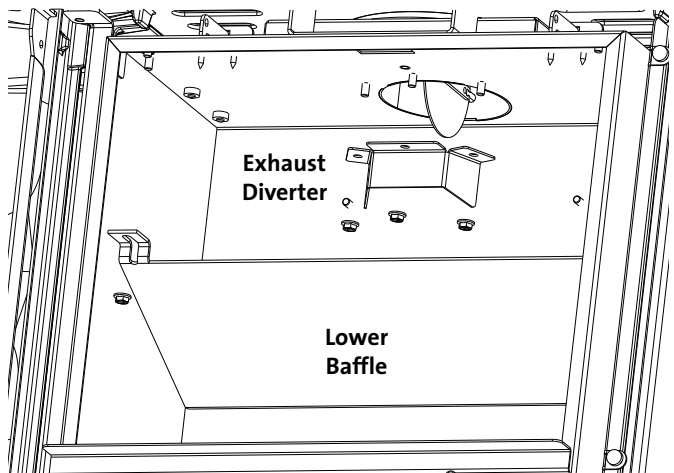

Figure 7.5. **PROPANE ONLY:** Remove Lower Baffle to access and remove the Exhaust Diverter. Re-install the Lower Baffle.
- Remove two, 6 mm nuts to detach the Lower Baffle assembly from the firebox. See fig. 7.5.
- Remove three 6 mm nuts to remove the Exhaust Diverter from the exhaust outlet. Replace the nuts on the studs. See fig. 7.5.